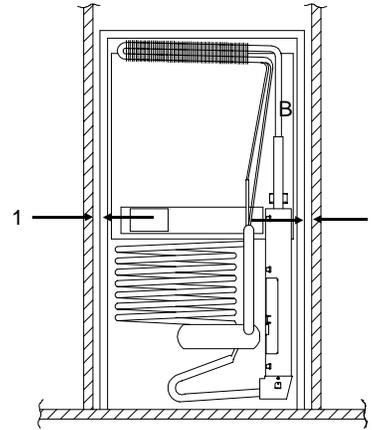

Figure 4
Side Wall Clearance - Figure 4
1. Figure 4 illustrates the requirement to minimize the clearance at the sides of the refrigerator. The clearance is not to exceed 1/2 inch. Side clearances in excess of 1/2 inch must be either filled with Fiberglass batting or blocked with paneling, etc.